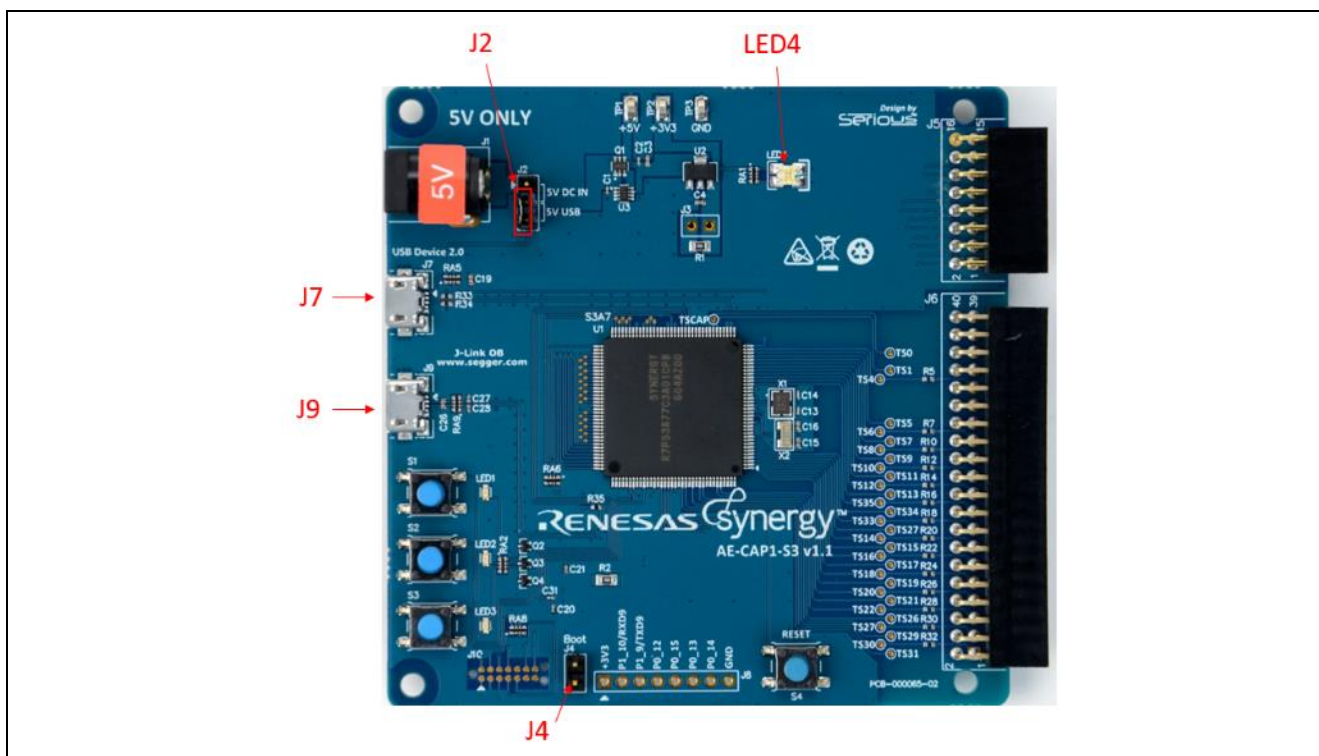

Figure 36. AE-CAP1-S3 Setting
1. See Figure 36, AE-CAP1-S3 setting to setup jumpers on AE-CAP1-S3. Leave jumper J4 open; orient jumper J2 towards the USB Device.